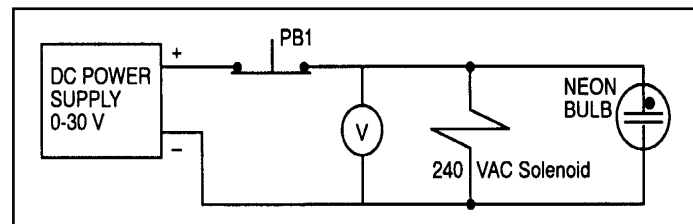

Fig. 3-9. Collapse of the magnetic field in an inductive device produces a voltage. Courtesy of Delmar Learning.
31. Construct the circuit in *Figure 3-9*, and connect it to the DC power supply.